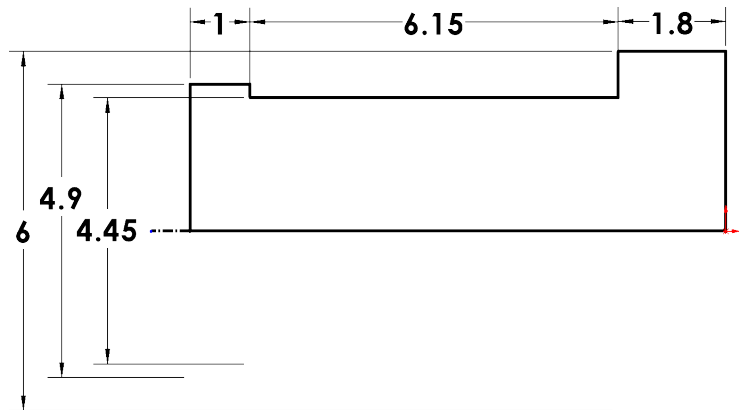

Fig. 4
Step 5. Click **Smart Dimension**  (S) on the Sketch toolbar.
Step 6. Add dimensions, **Fig. 4**. **Double distance the diameters.** To double distance dimension, click centerline and then top horizontal line, move the cursor below centerline and click. Key-in the diameter in the Modify box and press ENTER.